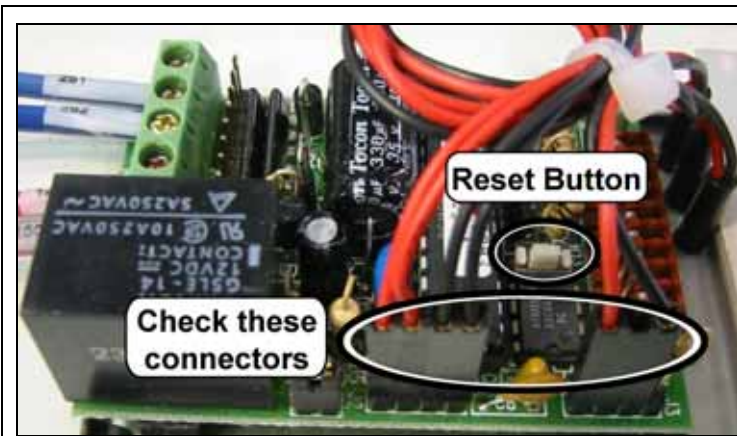

Figure 3, Back of Keypad
Step 4) Figure 3 shows the back of the keypad, carefully press on this circuit board to ensure that it's fully seated, also check that the plugs along the edge of the board are correct.
Step 7) Depress the small button (Figure 3) on the back of the keypad circuit board with a non-metallic object (like a writing pen.) The yellow light should now flash for 20-30 seconds, at the end of this time the system will become active. This tests that the keypad is operating, but may not be accepting your security code.